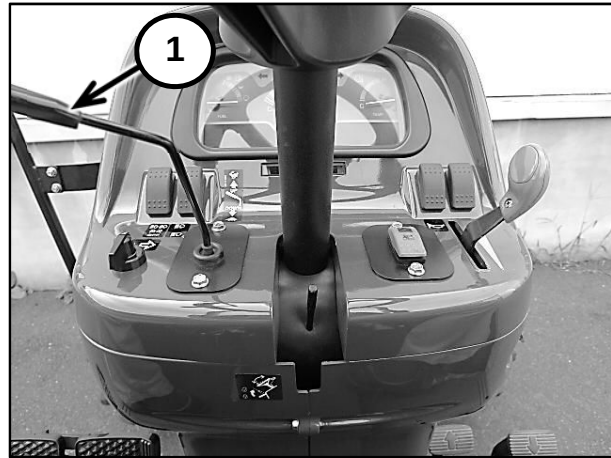

Figure 2-31
The HST speed control switch (1) in Figure 2-31, is located on left-hand side of the console. It has two positions. The “Turtle” (Lo) position operates the HST unit at below normal speed. The “rabbit” (Hi) position operated the HST unit at above normal speed. The Hi/Lo speed control can be operated with both ranges of the transmission.